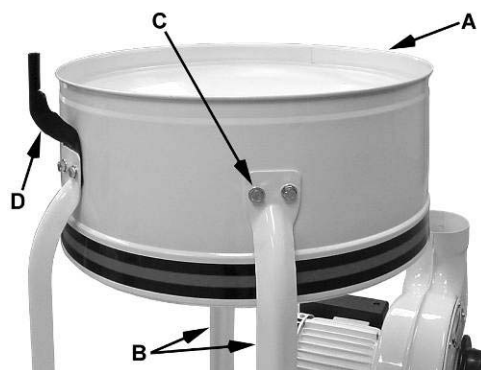
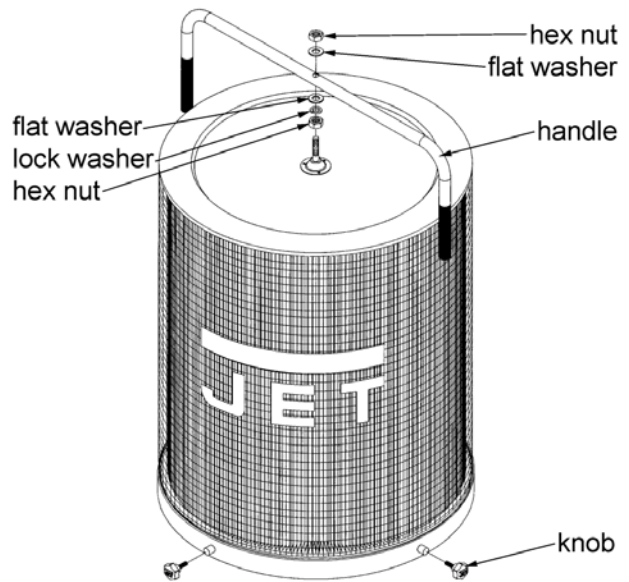

Figure 5
Figure 10
6. Install the *housing* (A, Fig. 5) to two *support legs* (B, Fig. 5) using four M8 x 16 hex cap bolts, eight M8 flat washers, and four M8 hex nuts (C, Fig. 5). Be sure hose opening faces fan housing.
Note: For filter bag models only – Before attaching third support bracket place the *hanger bracket* (D, Fig.5) between the support bracket and the housing. This action is not necessary for canister filter units.
1. Mount the handle onto the canister filter with two M10 hex nuts, two M10 flat washers, and a M10 lock washer (Figure 10).
2. Mount the canister filter on top of the *collector housing* (A, Fig. 5) and tighten the knobs on the *canister filter* (Figure 10).